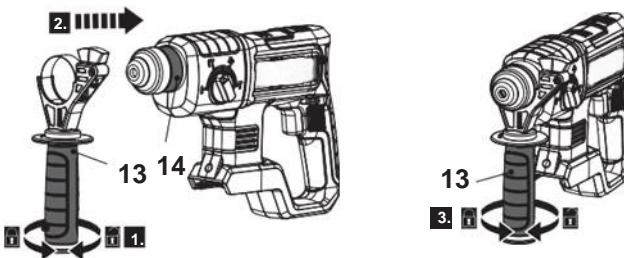

Fig. 1
1. Twist the handle of the auxiliary handle (13) anticlockwise to loosen the clamp (Fig. 1, step 1).
2. Align and pass the ring of auxiliary handle (13) over the chuck to the collar (14) (Fig. 1, step 2). Set the auxiliary handle (13) to a suitable position for the task.
3. Twist the handle of the auxiliary handle (13) clockwise to firmly clamp it. (Fig. 1, step 3).